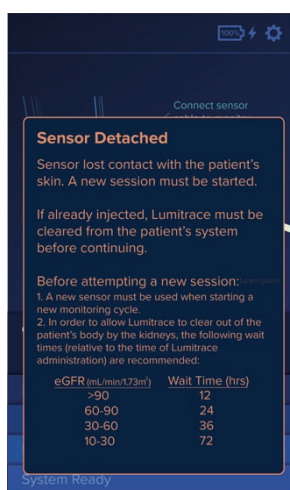

Figure 28. Detached sensor AFTER injection, PRIOR to first result
If the sensor becomes detached from the patient after Lumitrace has been detected and **the 'Approximate Time until GFR Result' screen is displayed**, the 'Sensor Detached' alert screen will be displayed as shown in Figure 28. Any data collected during the session will be lost: NO tGFR data can be assessed for this session.
2. Because detachment occurred after administration/detection of Lumitrace, a new session cannot be started until the recommended clearance time has elapsed (Figure 28 or Table 1).
2. Because detachment occurred after administration/detection of Lumitrace, a new session cannot be started until the recommended clearance time has elapsed (Figure 28, above).